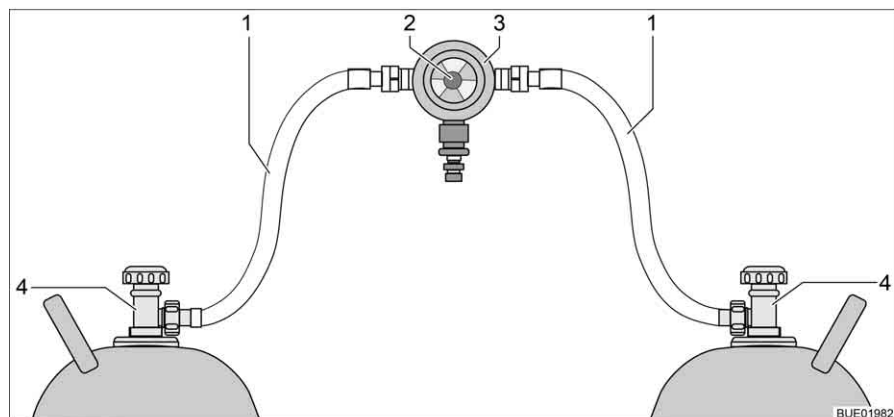
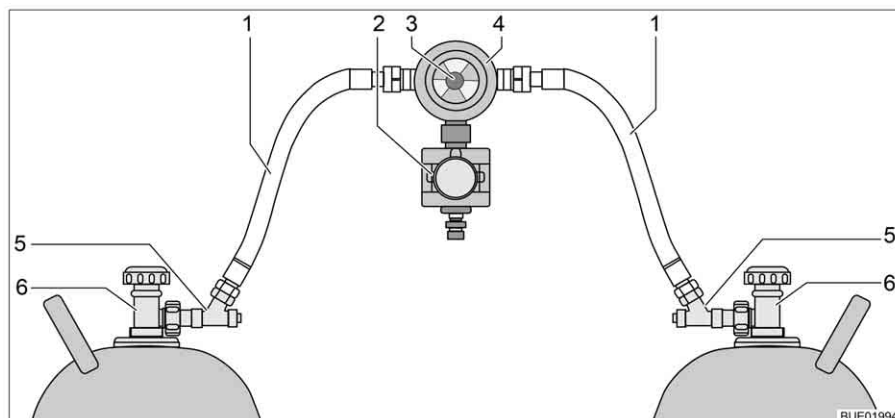

Fig. 158 Gas bottle switching facility
Fig. 159 Gas bottle switching facility with CPU
The gas bottle switching facility consists of a combined gas pressure regulator with reversing valve and indicator (Fig. 158,3). The gas bottle switching facility is installed between the two gas tubes (Fig. 158,1).
The gas bottle switching facility consists of a combined gas pressure regulator with reversing valve and indicator (Fig. 159,4), and an electrovalve (Fig. 159,2). The electrovalve blocks the gas supply to the vehicle in the event of a full braking, an accident, or an unusually great inclined position. The gas bottle switching facility is installed between the two gas tubes (Fig. 159,1) with hose break guards (Fig. 159,5).
Use the knob (Fig. 158,2 or Fig. 159,3) on the gas bottle switching facility to select which of the gas bottles is to be used as a primary bottle and which is to be used as a reserve bottle.
Only the electrical functions can be switched at the operating unit (Fig. 160). The regulator taps on the gas bottles (Fig. 158,4 or Fig. 159,6) must be opened and closed manually.
- Open the regulator taps of the gas bottles (Fig. 158,4 or Fig. 159,6).
- Press the hose break guards (Fig. 159,5) successively for 10 seconds.
- Use the knob (Fig. 158,2 or Fig. 159,3) on the switching facility to select the gas bottle which is to be the primary source of gas (primary bottle). Always turn the knob as far as it will go.
- Close the regulator taps of the gas bottles (Fig. 158,4 or Fig. 159,6).